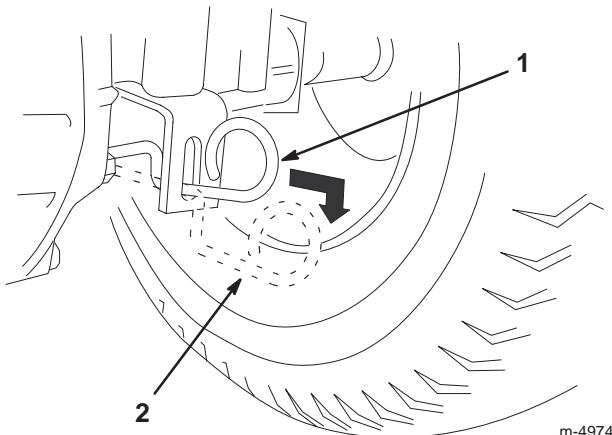

Figure 12
- Pull the drive control out to the Push position (Fig. 12).
**Note:** This disengages the drive system and allows the wheels to turn freely (Fig. 12).
Push the drive control in to the Operate position (Fig. 12).